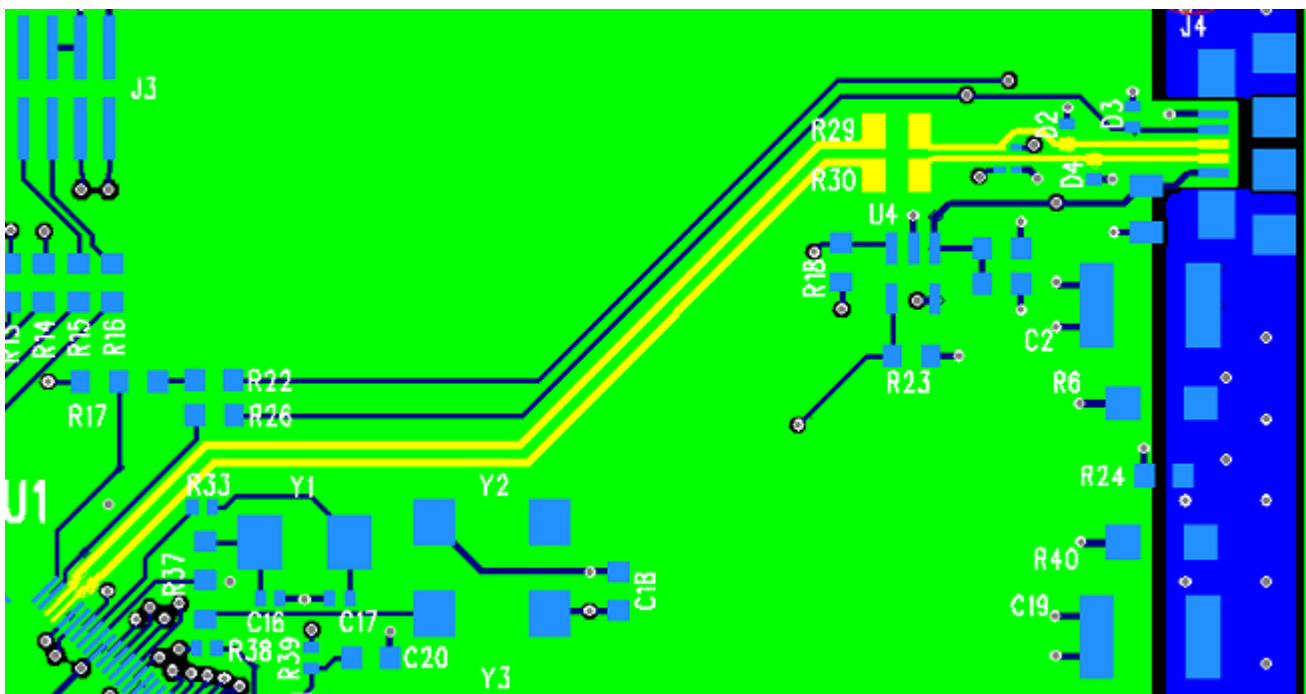

Figure 33. USB Routing Example
- Depending on the system design, a common mode choke may be helpful to pass EMI testing. An ACM2012 common mode choke by TDK is one recommended device. If EMI is a concern for the design, it is recommended that a footprint for the choke be included in the design placed close to the USB connector. Figure 33 shows how two 0805 sized resistors (R29, R30) can be placed and later replaced with an ACM2012 choke if needed during system EMI testing.